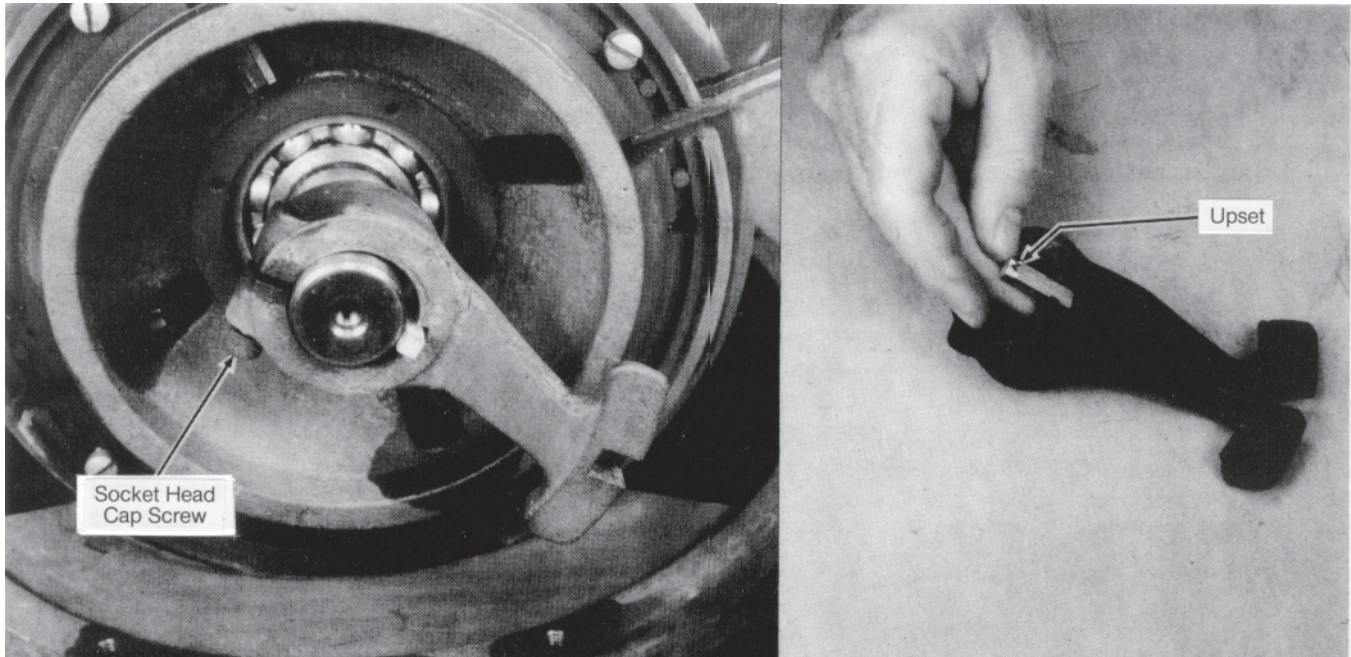

Figure 26 –Removing Arm from Rotor
4. To disassemble the rotor, place the assembly on wooden blocks or other suitable surface, Figure 26.